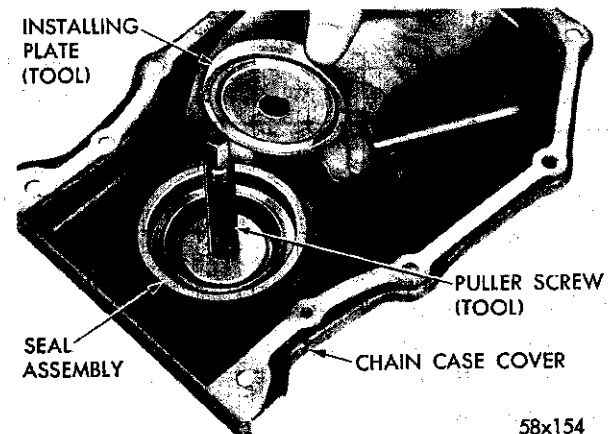

Fig. 24—Positioning Installer Plate on New Seal
- (1) Insert the puller screw through the removing and installing plate so that the thin shoulder will be facing up.
- (2) Insert the puller screw with the plate through the seal opening (inside of the chain case cover facing up).
- (3) Place the seal in the cover opening, with the neoprene down. Place the seal installing plate into the new seal, with the protective recess toward lip of the seal retainer (Fig. 24).